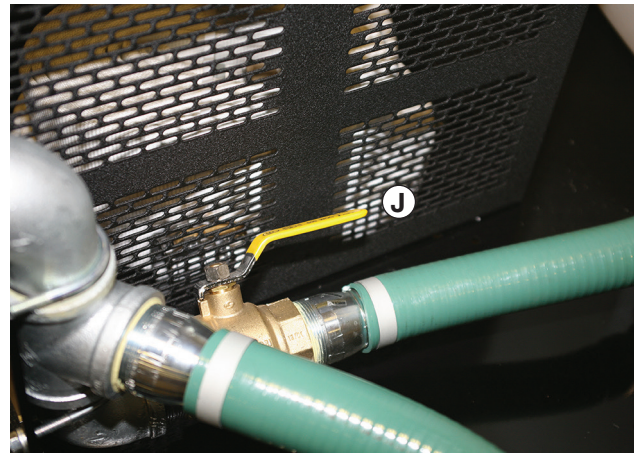

Figure 13
When using water from the tank, open valve (J) with valve (I) closed (figure 13).